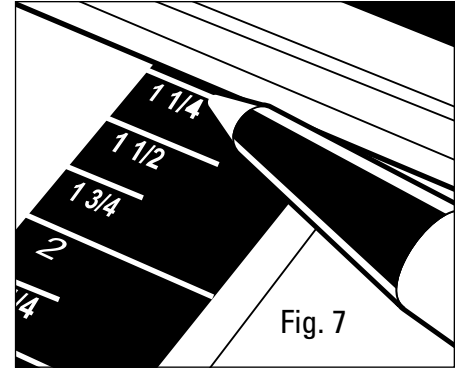

Fig. 7
1. Read dimension from vis scale (Fig. 7).